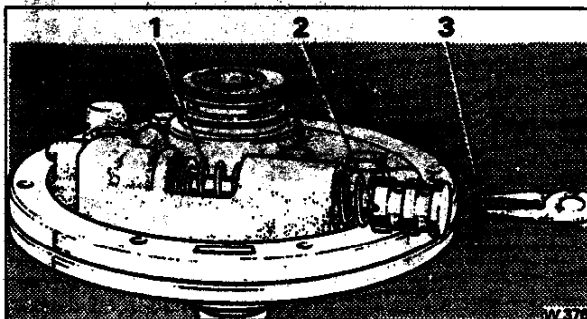

Fig. T81 Removing the regulator valve retaining circlip
1. Holding the pump assembly firmly on a bench, push the regulator boost valve sleeve, against spring pressure, then remove the circlip (see Fig. T81).